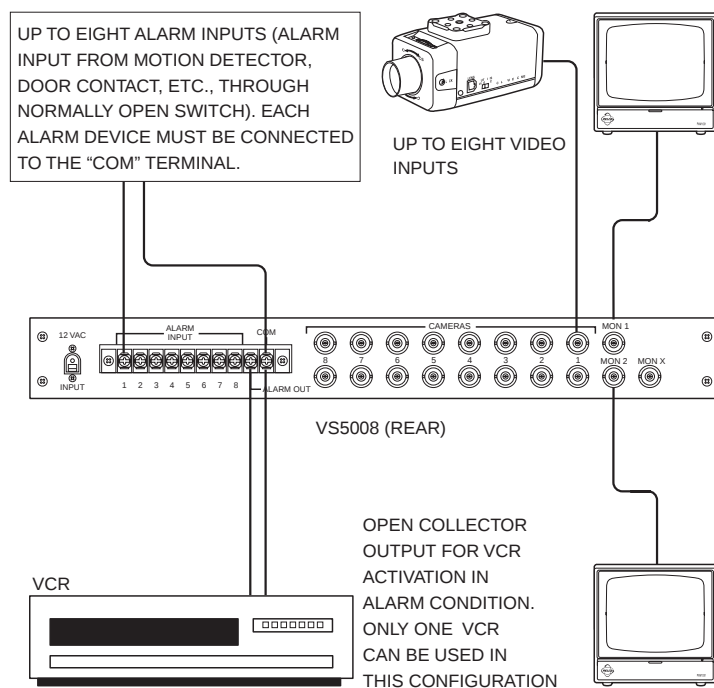

Figure 2. Alarm Hook-up
- a. **Input Connections** – The VS5008 has eight alarm inputs that require a ground to activate. Refer to Figure 2 for connections.
- b. **Output Connections** – The VS5008 can activate an external device, such as a VCR, during an alarm response. Refer to Figure 2 for connections. The output load must not exceed 40 mA. Typical connections to this output would be active low logic input devices, solid-state relays, or optical couplers.